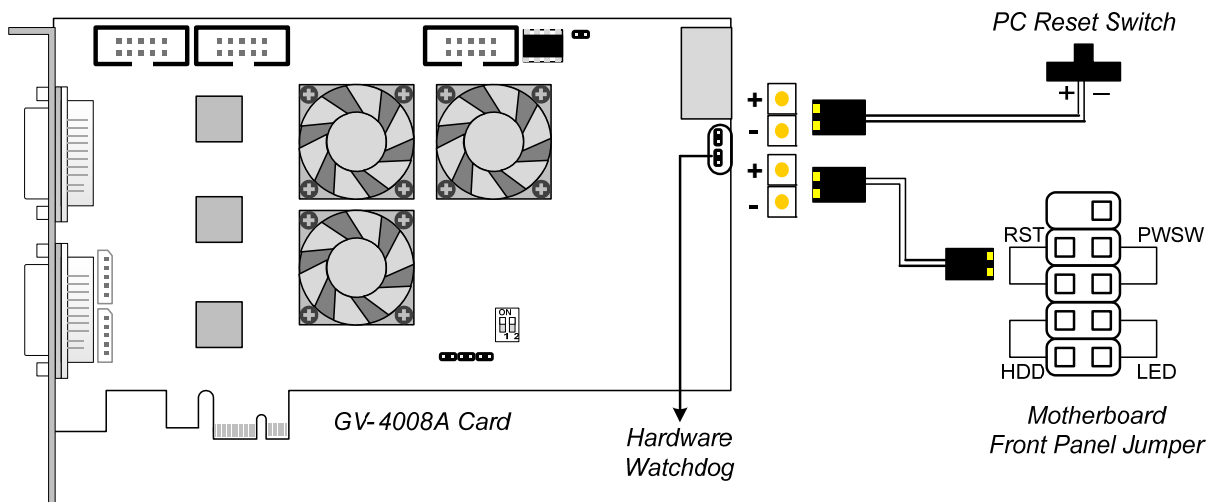

Figure 1-10
- Connect the supplied Hardware Watchdog Jump Wire (Figure 1-10).
- **Hardware Watchdog Connection:** Connect the supplied Hardware Watchdog Jump Wire to the Master Card only (Figure 1-10).